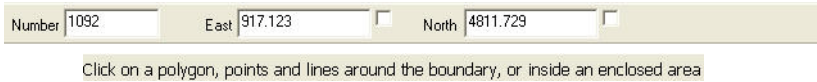

Figure 11-2. Calculation Area Prompt
1. Click **Inquiry** ► **Area** or click the *Query Area*  icon on the **Survey Tools** toolbar (Figure 11-2).